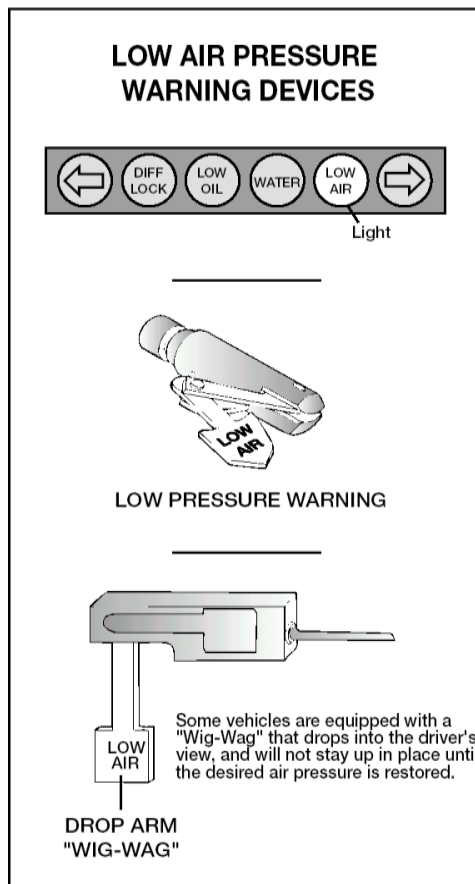

Figure 5.5
- The low air pressure warning signal must come on before the pressure drops to less than 55 psi in the air tank (or tank with the lowest air pressure, in dual air systems). See Figure 5.5.